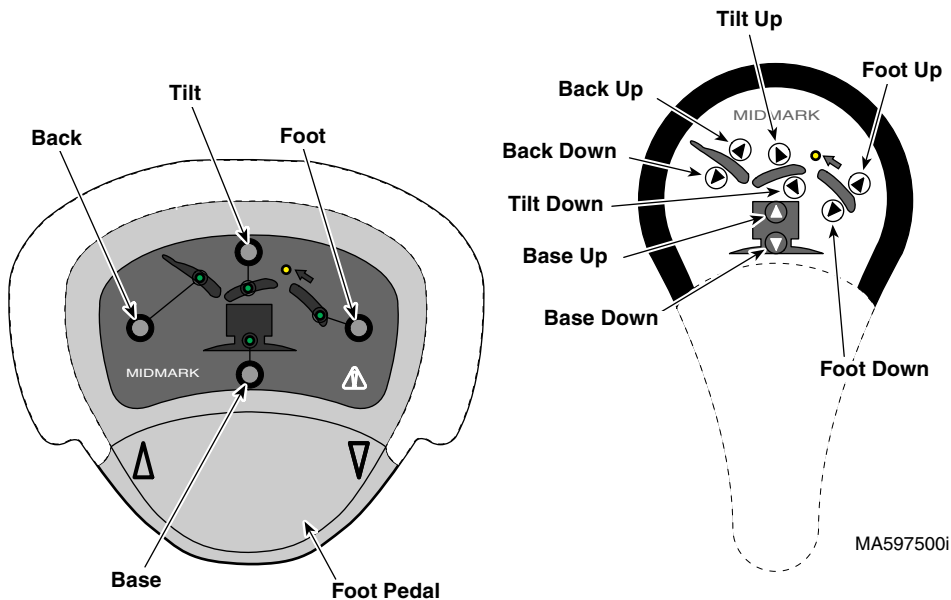

Figure 5.
1. Activate desired table function (Base, Back, Tilt, Foot) by pressing corresponding button. [**Note:** Each function has a light, which illuminates when that function is activated]. See Figure 5.
1. Press and hold button for desired function. Release button to stop movement. See Figure 5.